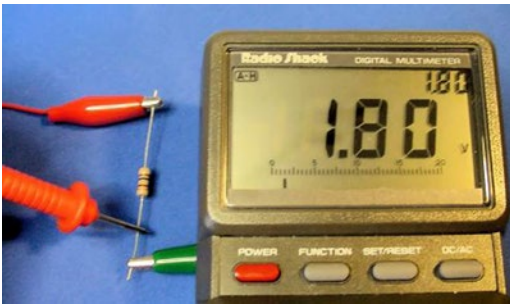

Figure 11-5. Red probe detecting the voltage at the point after the resistor
7. Touch the red test probe tip to the lower lead of the resistor (see Figure 11-5). Finally some action! The voltage should drop significantly. My circuit is 1.8 V at this point.